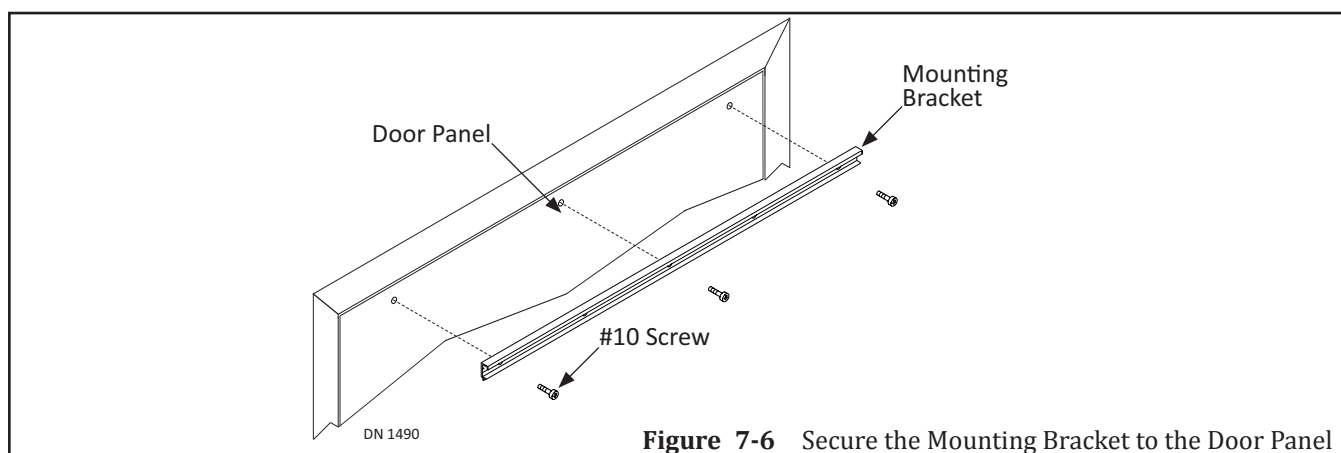

Figure 7-6 Secure the Mounting Bracket to the Door Panel
3. Align the first pre-drilled Screw hole to the measured mark and use the Mounting Bracket as a template to mark and drill (3) screw holes for #10 Screws. Ensure the Mounting Bracket is square and level.
4. Secure the Mounting Bracket to the Swing Door with (3) #10 Screws (not provided by NABCO). Please see Figure 7-6.